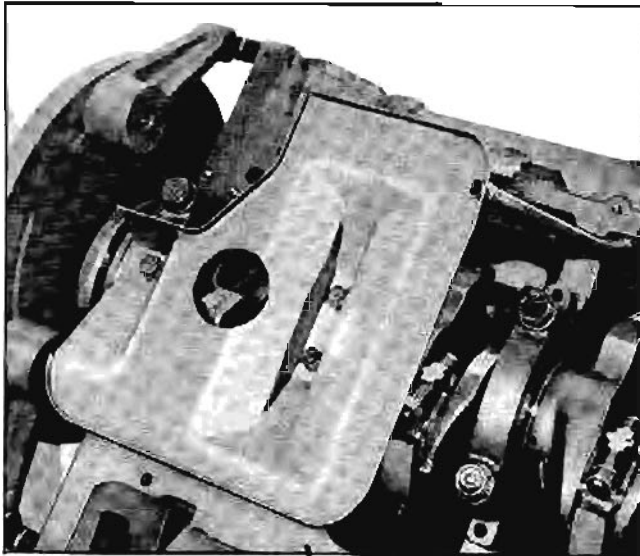

Fig. 6-59 Oil Baffle and Tube Installed
12. Install baffle and oil indicator tube extension (Fig. 6-59).